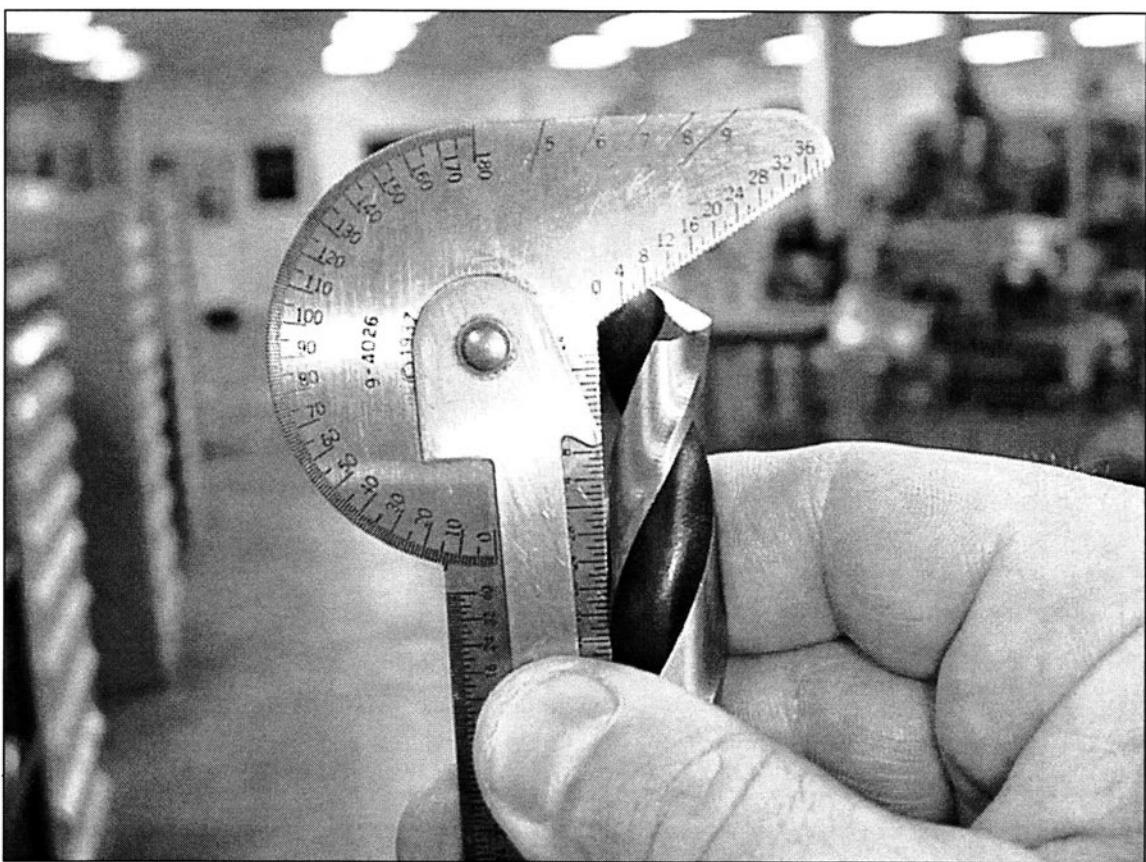

FIGURE 5-13 A drill gauge is used to check the angle and symmetry of a drill bit.
42. *Use a drill guide to maintain symmetry when hand grinding drills. (See Fig. 5-13)*